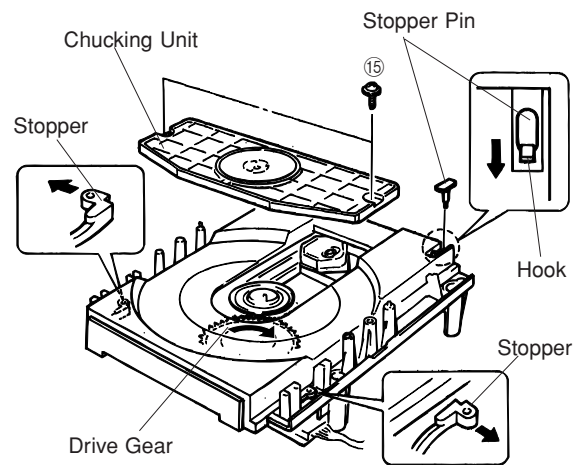

Fig. 5
- Remove 2 screws (15) and then remove the Chucking Unit in Fig. 5.
- Remove 1 hook and then remove the Stopper Pin in Fig. 5.
- Rotate the Drive Gear and then open the Tray Unit in Fig. 5.
- Detach the Stoppers on both sides and then pull out the Tray in Fig. 5.